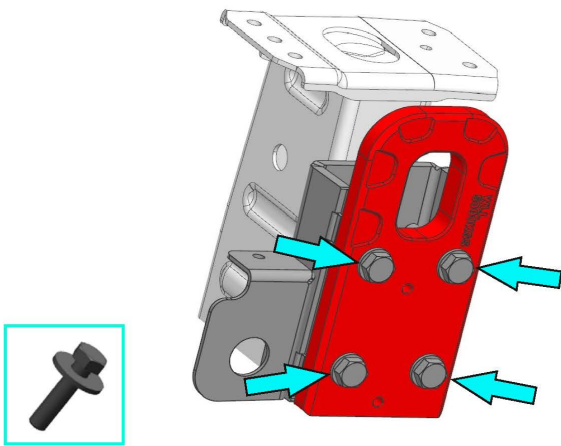

Fig.55
55. Install recovery point (item G1) on recovery point bracket (item H1) and fix using bolts M12x60, washers 12 (item C1, F1) (fig.55).